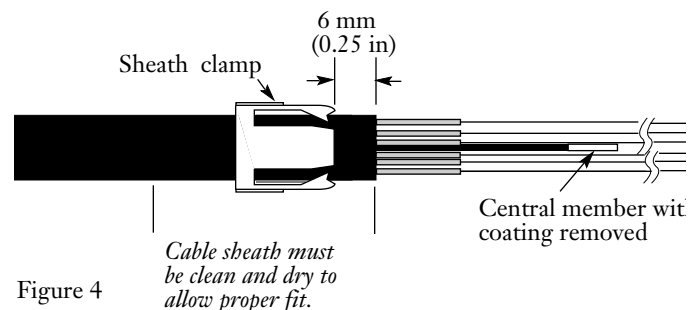

Figure 4
4.8 If the cable clamp is a tight fit on the cable, slide the clamp to a point 6 mm (0.25 in.) from the end of the cable sheath (see Figure 4).
4.9 Remove 1.25 cm (0.5 in.) of the outer coating of the central member, if present (Figure 4).